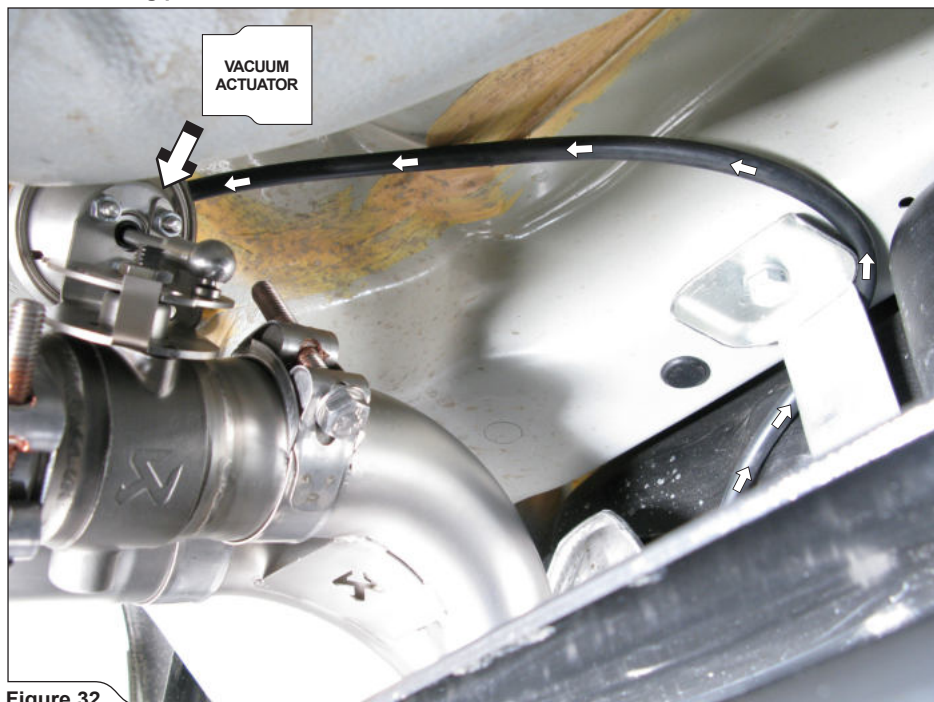

Figure 32
27. **For optional wireless kit only:** connect the Akrapovič rubber vacuum hose to the vacuum actuator and direct the hose to the electromagnetic valve in the engine compartment, as shown (Figure 32, 33, 34, 35, 36).